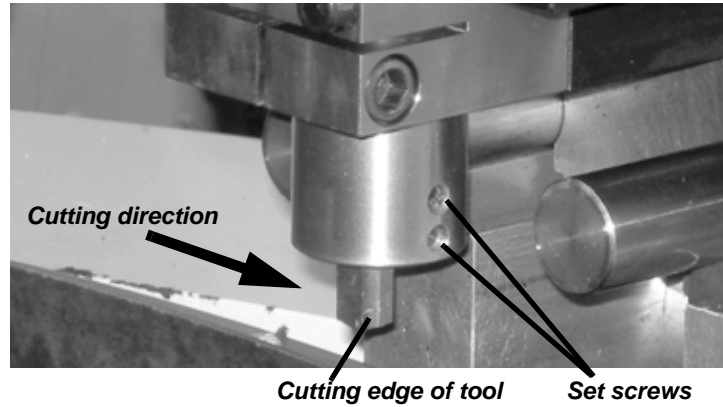

Figure 3-1. Loosen the set screws and insert the tool in the holder. Retighten the set screws.
2. Insert the tool with the cutting edge oriented as shown in Figure 3-1.